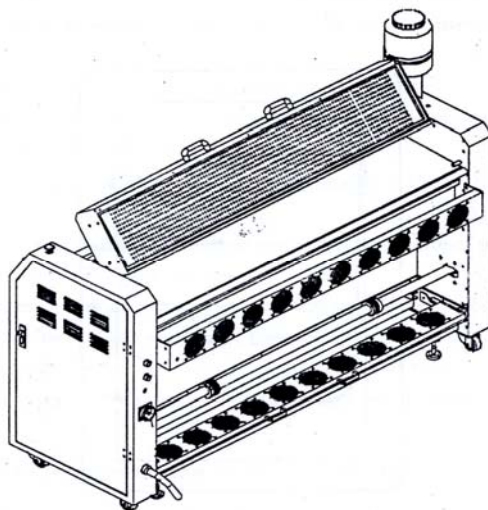

Figure 9
3. Lift the heating box assembly and gently lean it against its mainstays located on the two sides of the machine body boxes (as shown in figure 9).